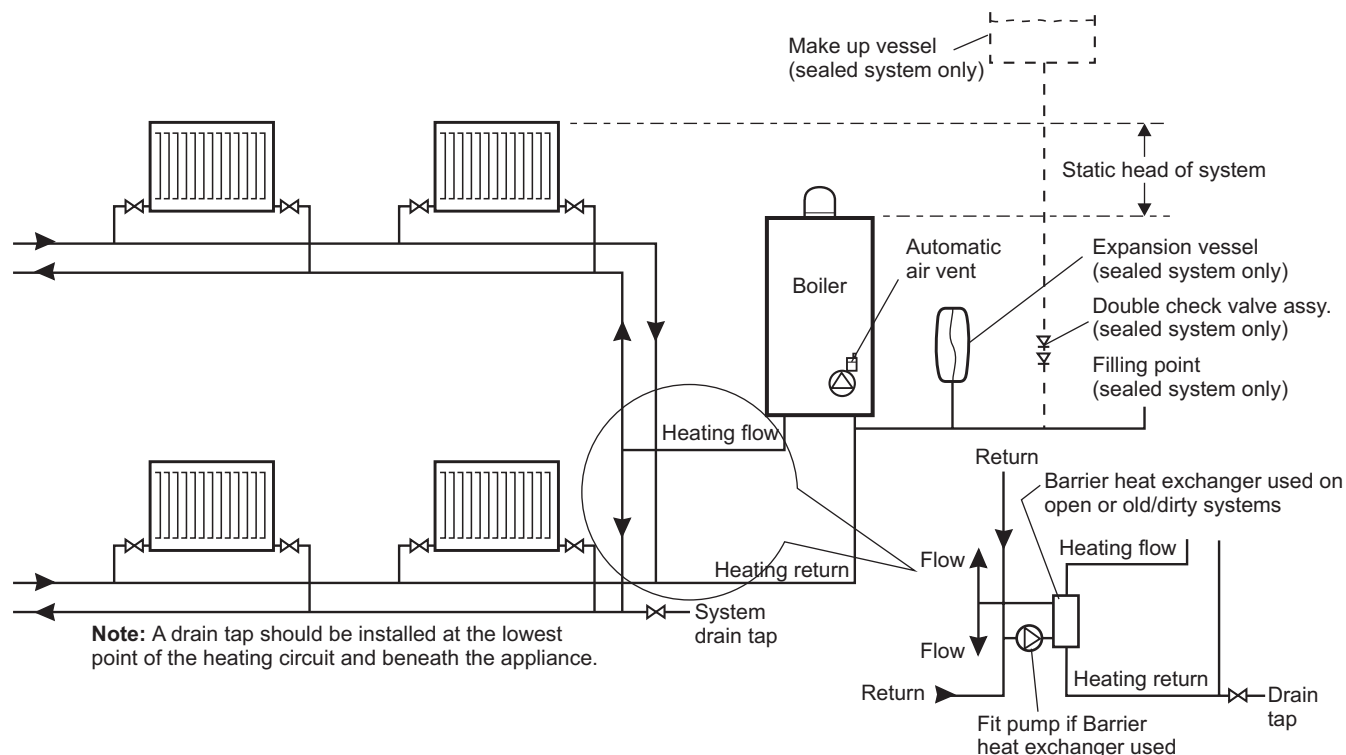
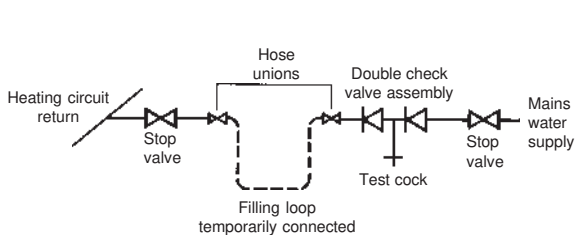
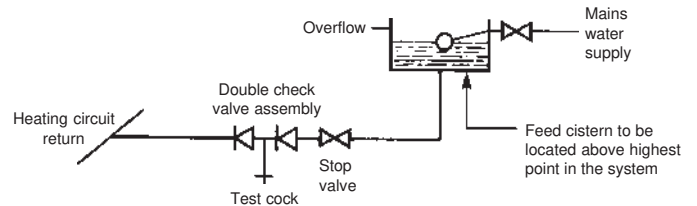

Fig. 9
Fig. 10
Fig. 11
3.8 CENTRAL HEATING SYSTEM - Fig. 9
However, if the boiler is to be used with an open central heating system refer to Fig. 9 and use a barrier heat exchanger (i.e. separates the boiler primary circuit from the open heating circuit). This will also ensure the boiler heat exchanger is protected from an old/dirty system.
Sealed system volume - An expansion vessel **is not** incorporated into the boiler. An expansion vessel **must be** fitted in the position shown in Fig. 9. To check correct operation of the expansion vessel the system pressure should not be more than 3.5 bar when the system is at maximum operating temperature (for further guidance refer to BS 7074:1). For example an 8 litre expansion vessel is suitable for a sealed system of 80 litres.
3.9 FILLING THE SEALED CENTRAL HEATING SYSTEM - Figs. 10, 11
The system design pressure (cold) should be set to 1.0 bar. This pressure is equivalent to a static head (see Fig. 9) of 10.2 metres of water.
Provision should be made to replace water lost from the system. This can be by manual or automatic means, as shown in Figs. 10 and 11. The position for connecting an automatic make-up vessel is indicated in Fig. 9. A double check valve assembly must be used, as shown in Fig. 11.
Filling of the system must be carried out in a manner approved by the local Water Undertaking. Where allowed, the system may be filled via a temporary connection as shown in Fig. 10. After filling, always disconnect the flexible hose of the filling loop.
It is essential that the central heating system is thoroughly cleaned and flushed when fitting an Alpha CD50S or CD70S boiler. Failure to do so will invalidate the warranty. If this is difficult because the system is old/dirty refer to Section 3.8, Fig. 9 gives consideration to using a barrier heat exchanger.